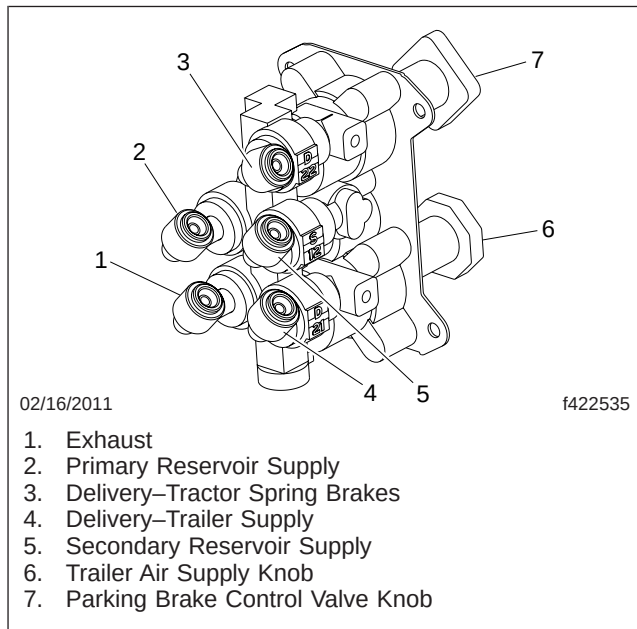

Fig. 1, MV-3 Parking Brake Valve
2. With the trailer supply line sealed, push in the red knob. The knob must stay in. Leakage at the exhaust port must not exceed a 1-inch (25-mm) bubble in 5 seconds. See Fig. 1.